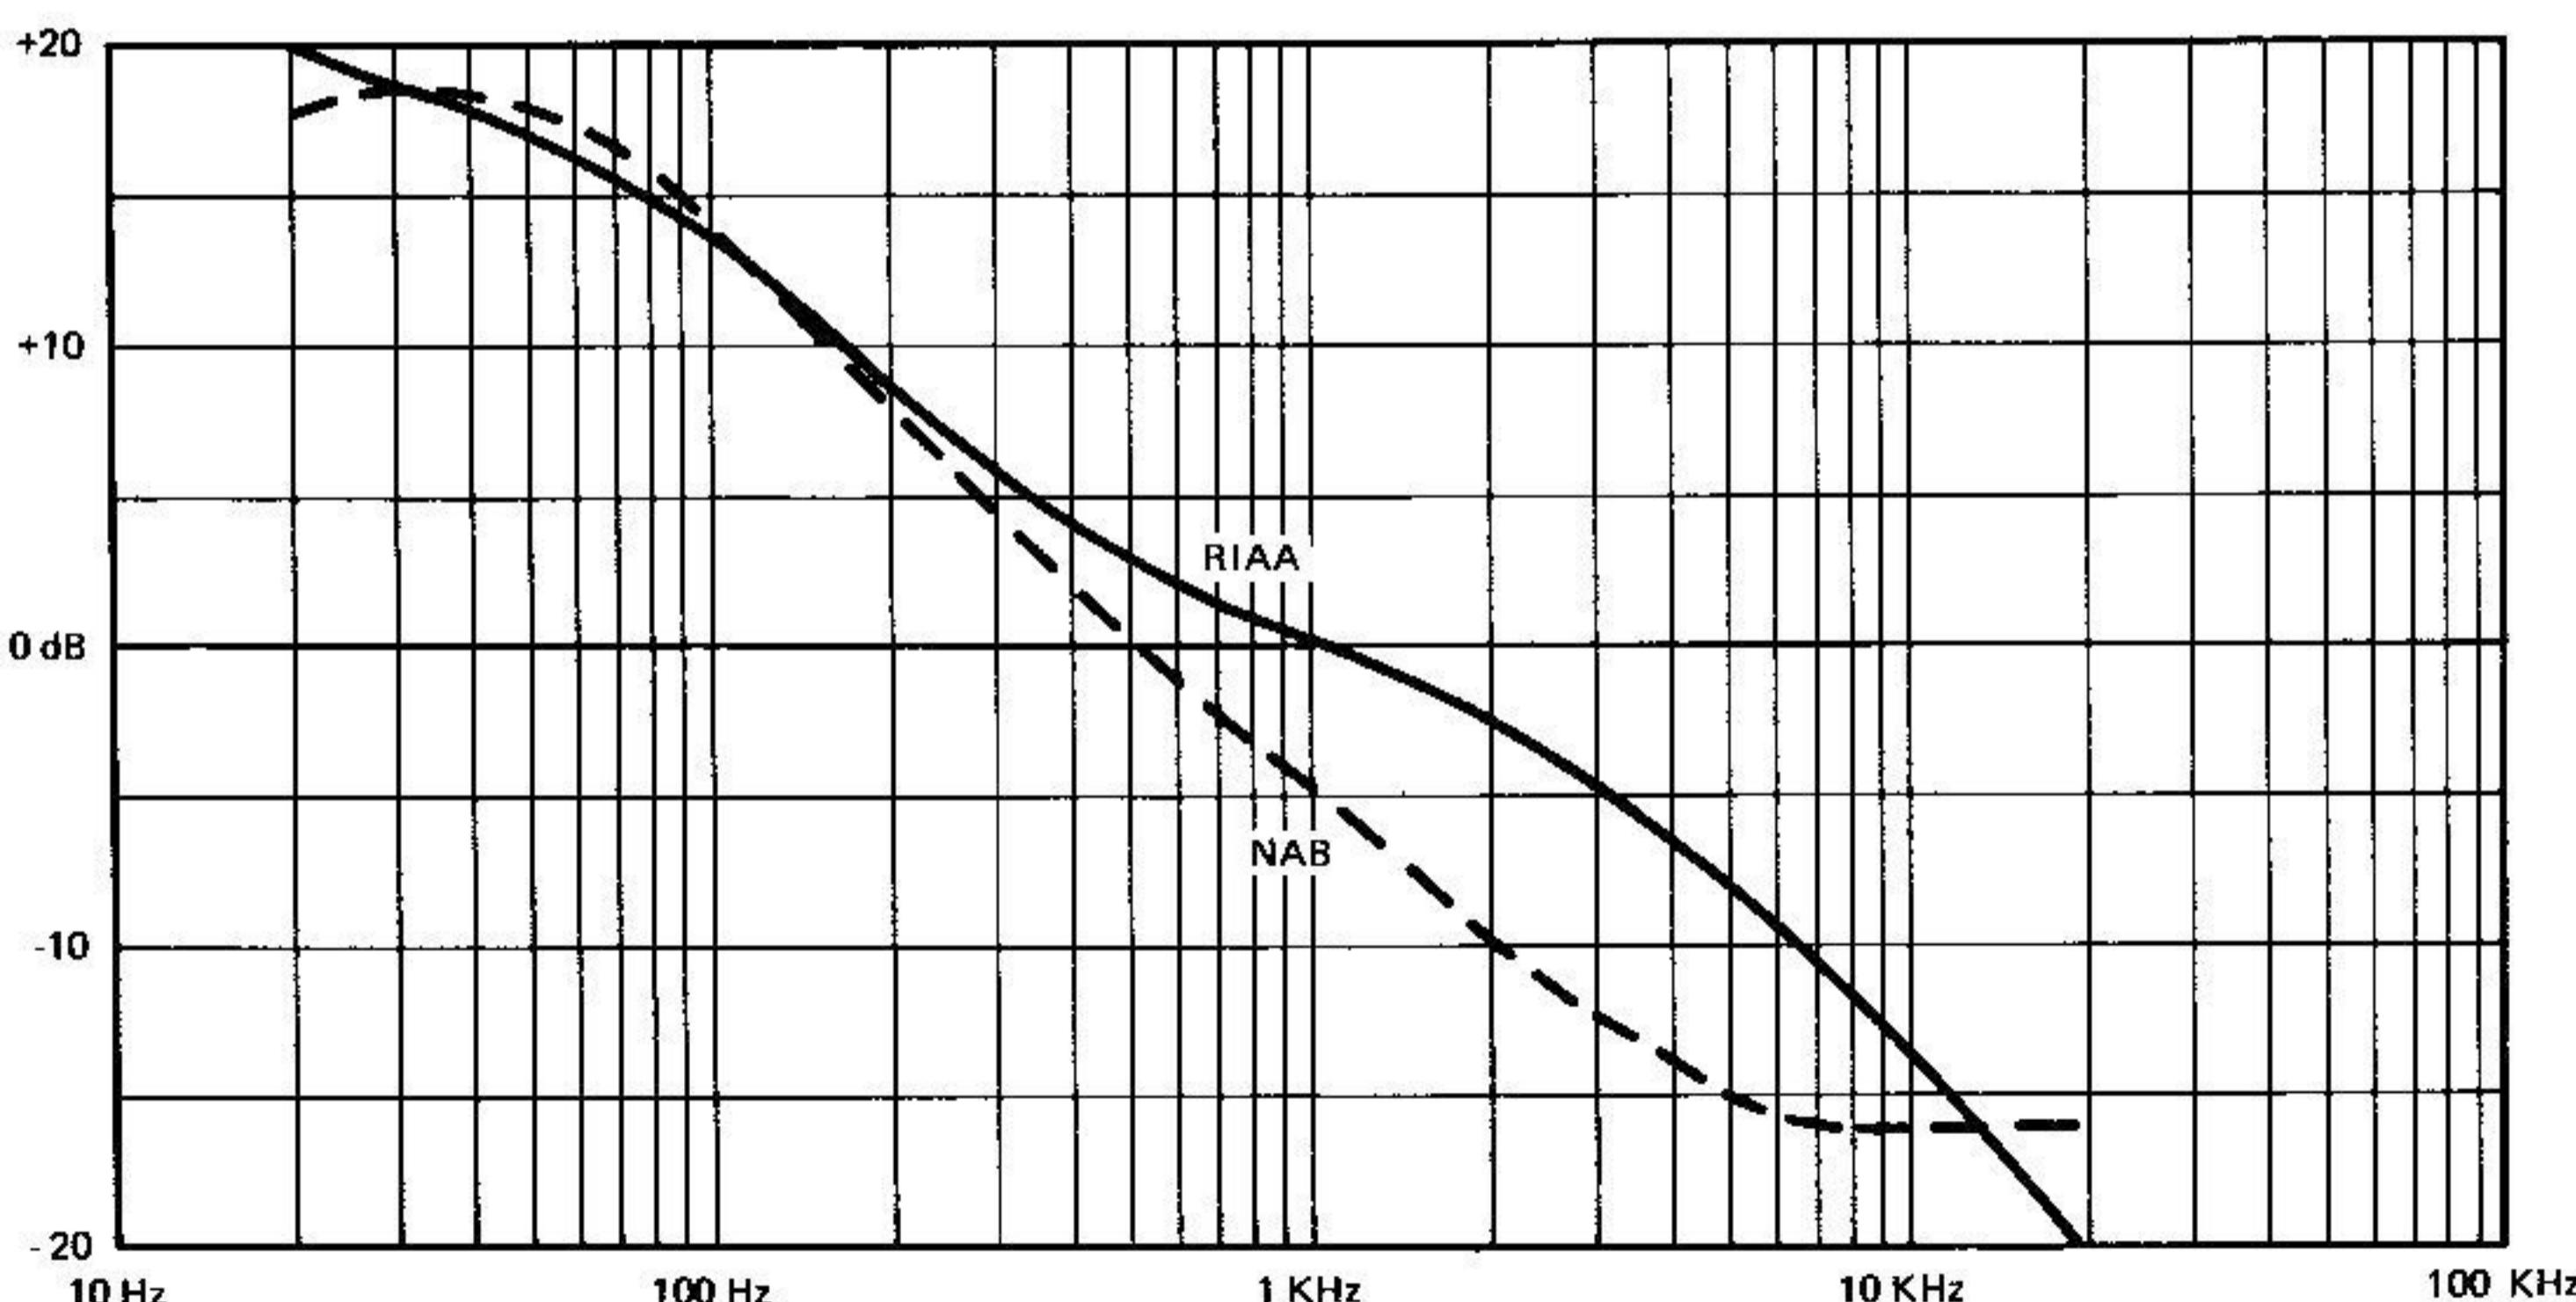

Figure 6. NAB and RIAA Equalization Curves
- e. Set oscillator frequency to 50 Hz. Analyzer should indicate $+17.5 \text{ dB} \pm 1 \text{ dB}$, Figure 6.
- f. Set oscillator frequency to 10 KHz. Analyzer should indicate $-15.5 \text{ dB} \pm 1 \text{ dB}$, Figure 6.
- e. Set oscillator for 30 Hz. Analyzer should indicate $+18.61 \text{ dB} \pm 1 \text{ dB}$, Figure 6.
- f. Set oscillator for 15 KHz. Analyzer should indicate $-17.17 \text{ dB} \pm 1 \text{ dB}$, Figure 6.